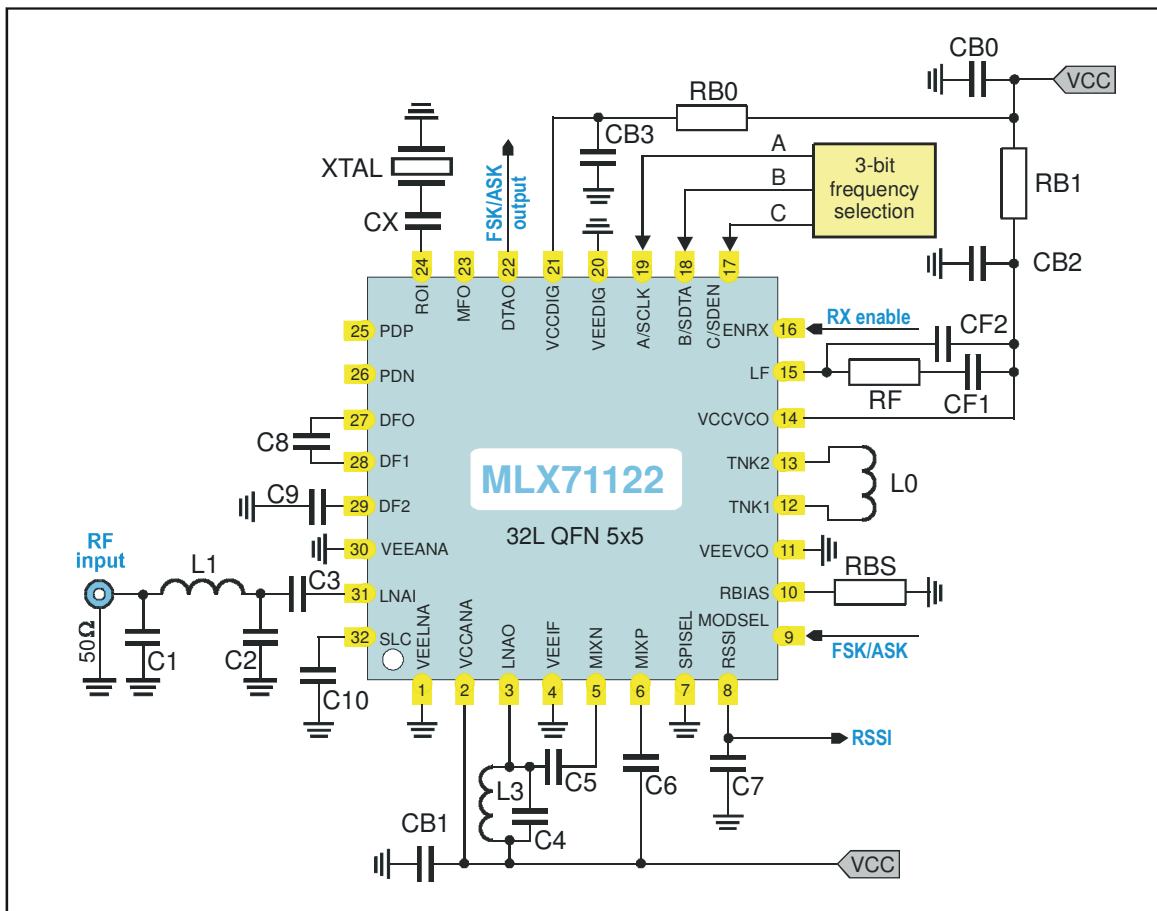
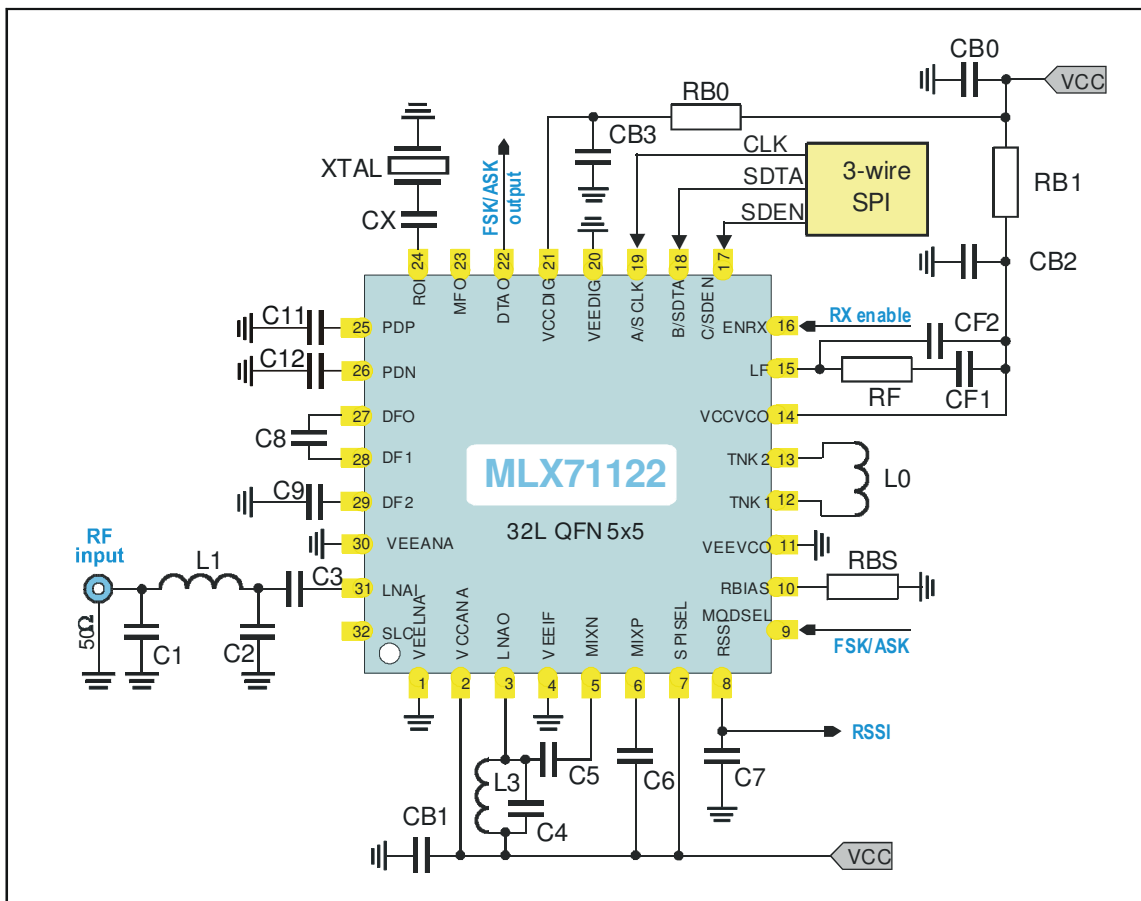

Fig. 20: Test circuit for FSK & ASK reception
Fig. 22: Test circuit for FSK & ASK reception
- all parameters based on test circuits as shown in Fig. 20 to Fig. 22
Below table shows components for all test circuits of Figures 20 to 22.
not required in Fig. 22
not required in Figs. 20 and 21